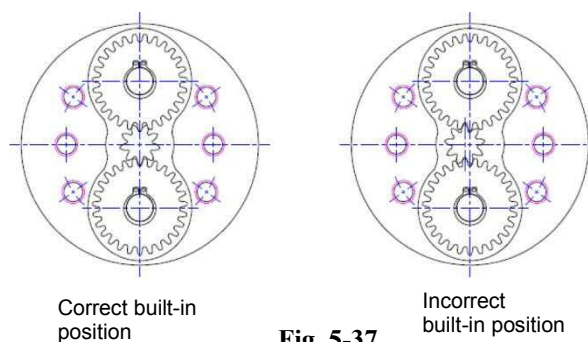

Fig. 5-37
- For the product with two spur gears, insert the motor so that the input gear is in the correct position as illustrated in Fig. 5-37 “Correct built-in position”. Then, confirm that the motor and motor mounting flange are closely attached with each other without any tilt. If there is a clearance between the motor and motor mounting flange surface, the motor could be in an incorrect position as illustrated in Fig. 5-37 “Incorrect built-in position”. Do not tighten the bolt to eliminate the clearance.